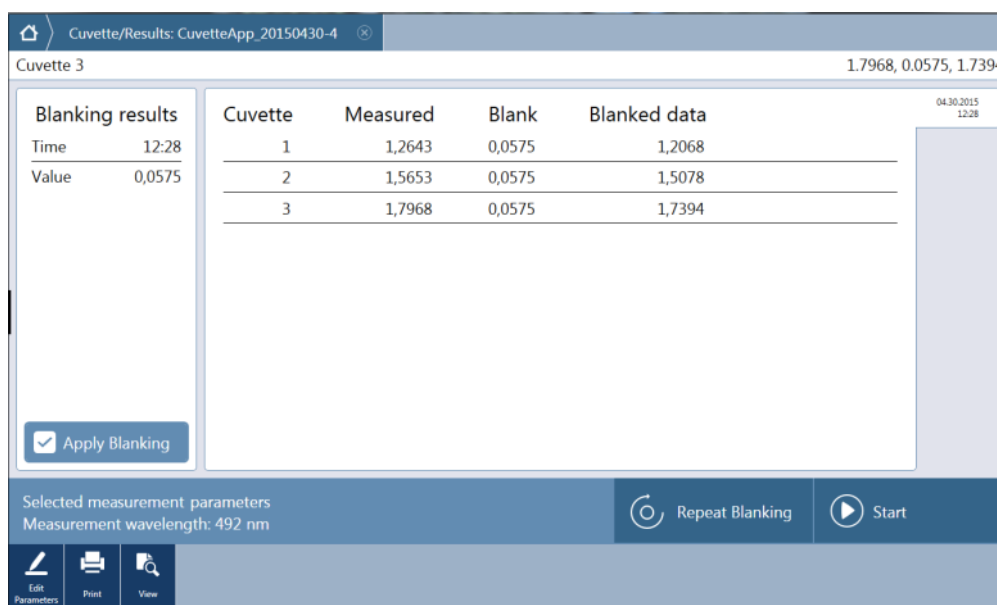

Figure 136: Result window during a measurement
4. Insert a cuvette for blanking and confirm the corresponding user intervention by selecting **OK**. The blanking measurement is performed and the blanking result is part of the Result window (Figure 136: Result window during a measurement).
2. Start the measurement by selecting **Start**. The measured result is displayed within the Result window (Figure 136: Result window during a measurement). To measure a new sample remove the previous cuvette from the cuvette port, insert the new one and continue with **Start**. The new measured result is added to the Result window.